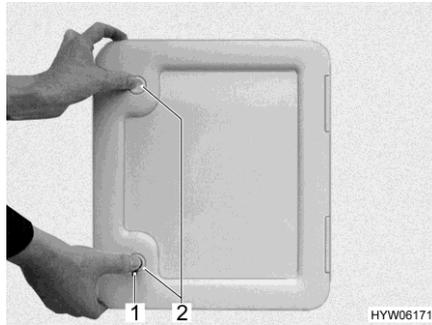
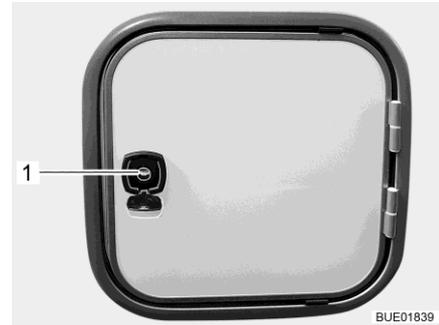

Fig. 273 Flap for sewage tank
Fig. 274 Flap for sewage tank (alternative)
- Open the flap for the sewage tank on the outside of the vehicle. To do this, insert the key into the locking cylinder of the lock (Fig. 273,1 and Fig. 274,1) and turn a quarter turn clockwise.
- If present: Press both push-button locks (Fig. 273,2) simultaneously with your thumb and open the flap for the sewage tank.